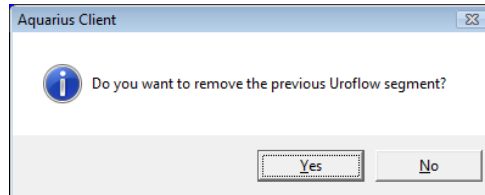

Figure 62: Aquarius Client Window – Removing Uroflow Segment
**NOTE:** If a *Permission to Void* event is added after the end of a Uroflow segment (each stop is automatically marked as **Ur** on the graph to signal the end of a segment), a message will appear asking for confirmation to remove the previous Uroflow segment as shown in Figure 62 below.